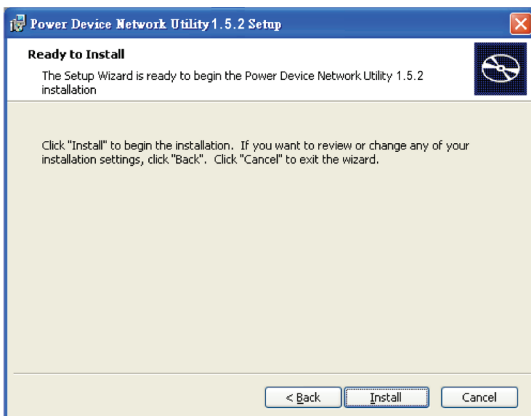

Figure 3
Step 4. Select **Install** to confirm the settings and install (Figure 3).